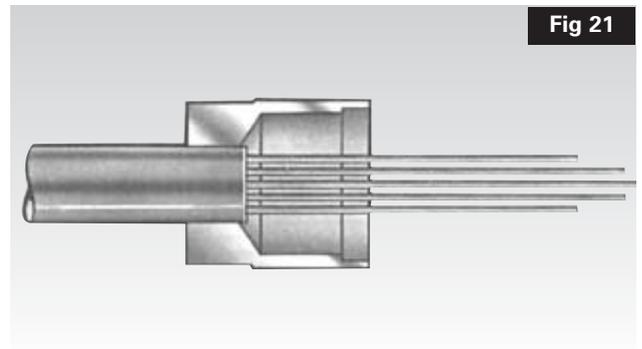

Fig 21
- Nineteen Conductors - Shorten the twelve outer conductors by 20mm and the inner six conductors by 10mm (Fig. 21).